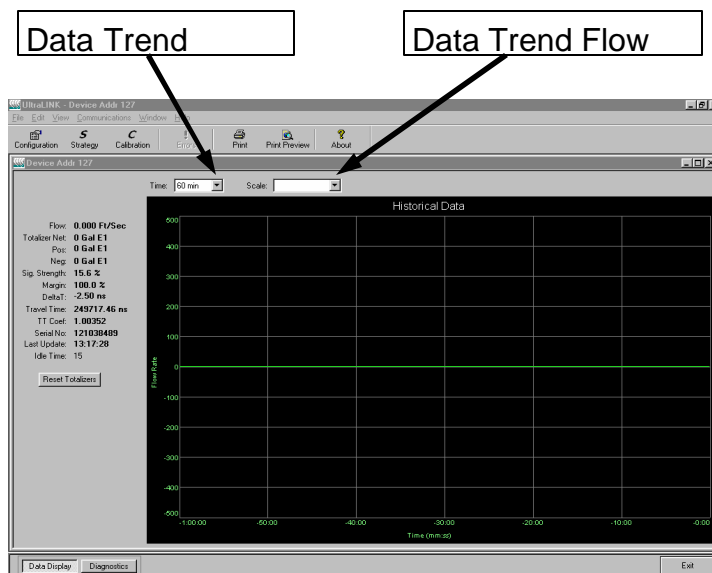

Figure 4.1
2. Double-click on the **UltraLink** icon. The first screen is the "RUN-mode" screen, See **Figure 4.1**, which contains real-time